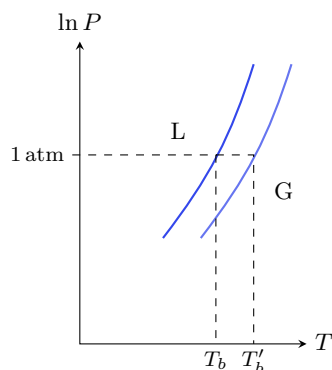

Figure 8.1: Boiling point elevation.
- In Figure 8.1, the dark blue line is the original liquid-gas coexistence curve and the light blue line is the liquid-gas coexistence curve with vapor pressure lowering — notice how at any given temperature, the corresponding pressure represented by the light blue line is lower than that given by the dark blue line.